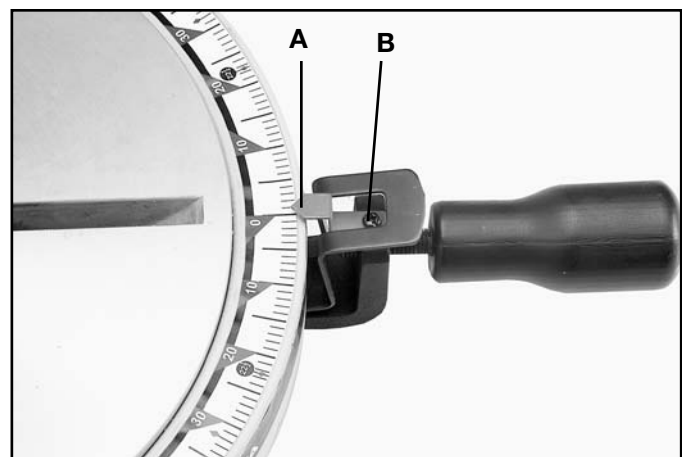

Fig. 23
If it becomes necessary to adjust the pointer (A) Fig. 23, simply loosen screw (B), adjust the pointer accordingly and tighten screw (B).